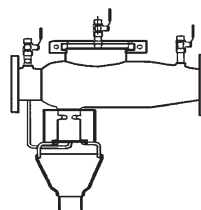

Fig. 1
5. Reconnect relief valve hose to the fitting below the inlet ball valve (Fig. 1).